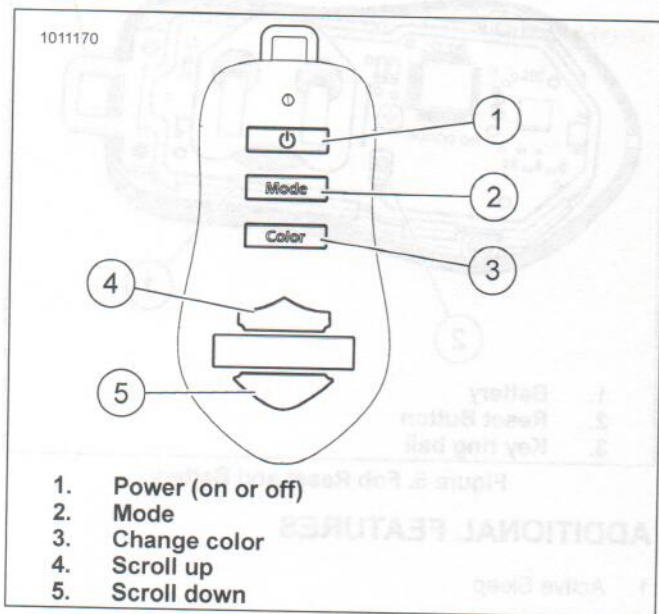

Figure 3. Fob
2. Refer to Figure 3. Press the Power button (1) on the fob.
1. Refer to Figure 3. Press the Mode button (2) to toggle through the three modes.
- b. Press the Scroll up button (4) to increase the speed gradually. Hold to quickly increase speed.
- c. Press the Scroll down button (5) to increase the speed gradually. Hold to quickly decrease speed.
1. Refer to Figure 3. Press Change Color button (3) to scroll and change color zones.